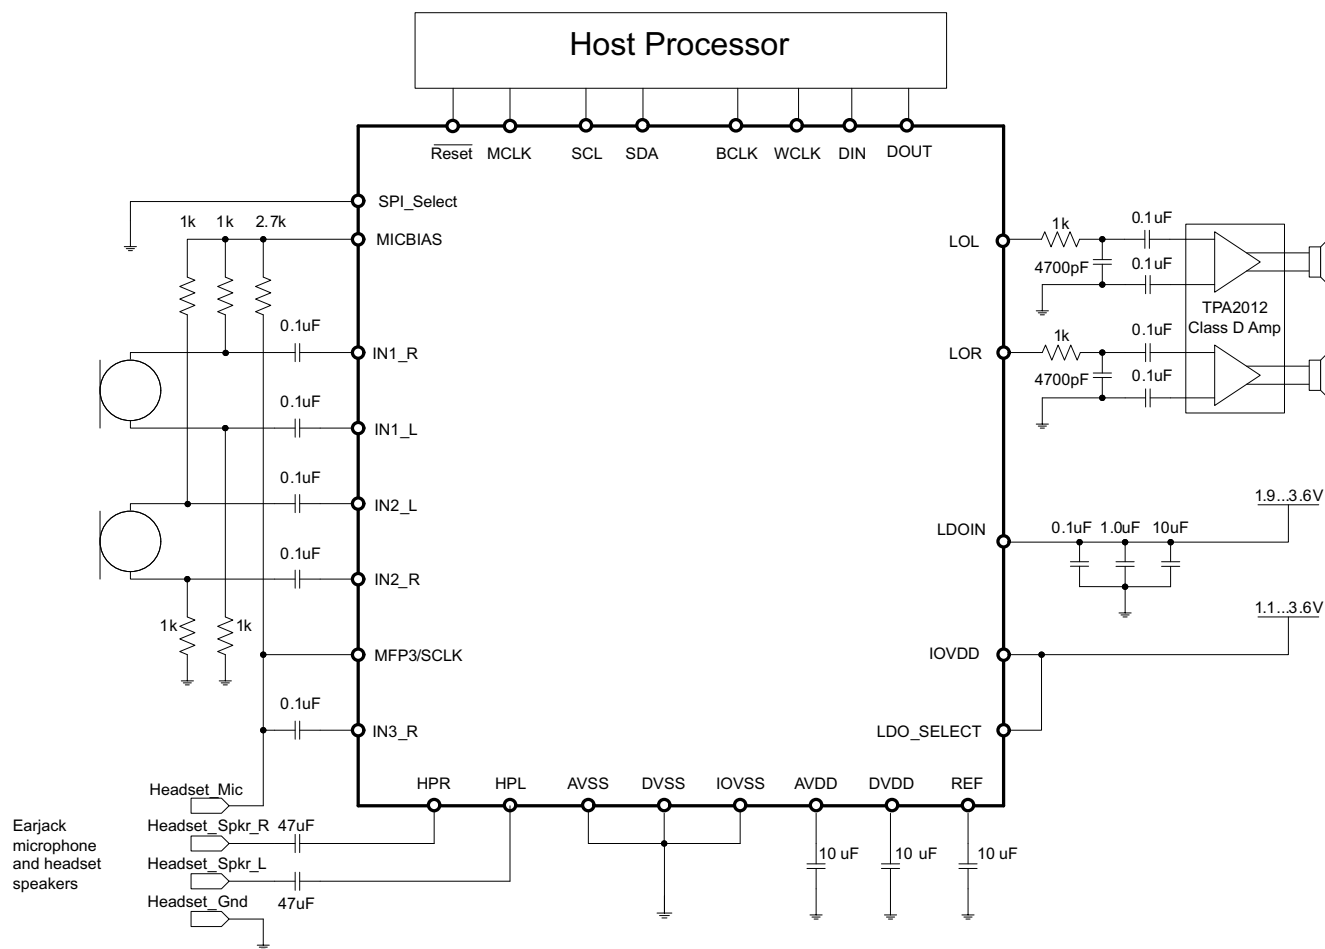

Figure 21. Typical Circuit Configuration
Figure 21 shows a typical circuit configuration for a system using the TLV320AIC3254.
Refer to Figure 21 for recommendations on decoupling capacitors.
- The decoupling capacitors for the power supplies should be placed close to the device terminals. Figure 21 shows the recommended decoupling capacitors for the TLV320AIC3254.